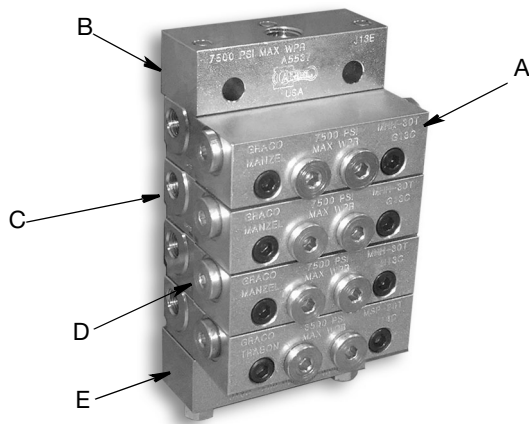
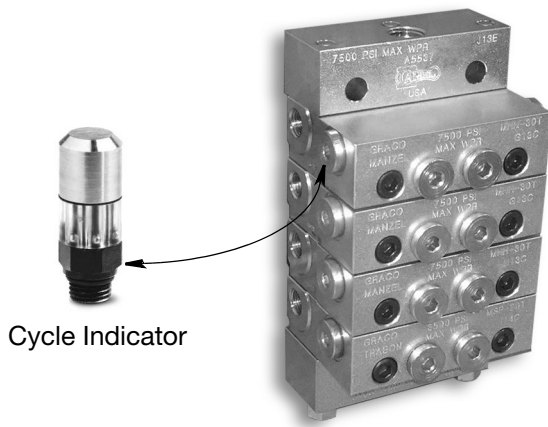

FIG. 2
FIG. 8
NOTE: The MSP Divider Valves shown in FIG. 2 - FIG. 8 are provided for reference only. The MSP Divider Valves used in your installation may include fewer or more blocks and appear slightly different than those shown in the reference figures.
6. Install cycle indicators into secondary valves (FIG. 8).